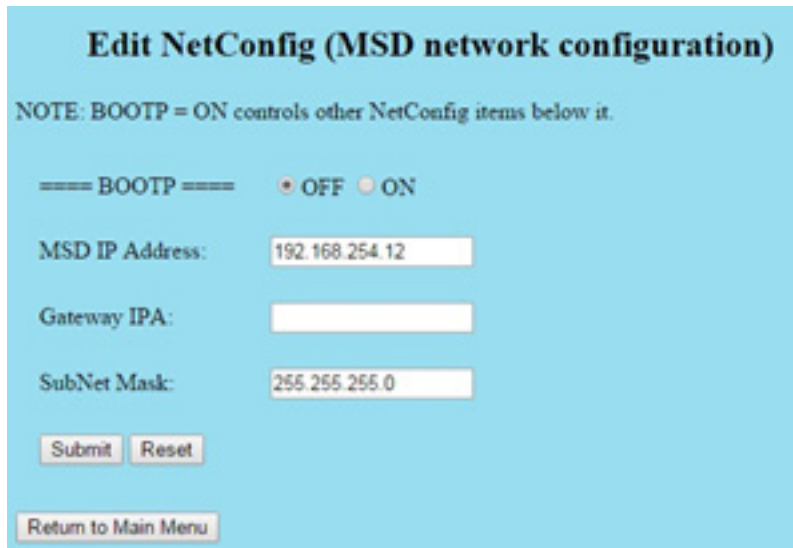

Figure 29. WUI Edit NetConfig
- 5 Click **Set Real-Time Clock or Edit NetConfig**, and go to **Edit NetConfig (MSD network configuration)**. (See Figure 29.)